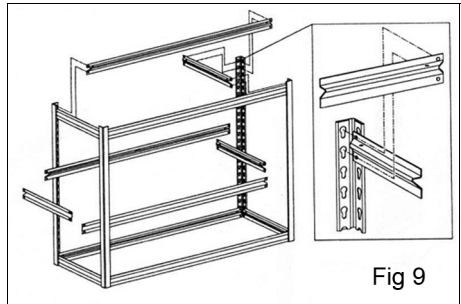

Fig 9
3. Add additional beams to create a center shelf at the required level as in Fig 9.